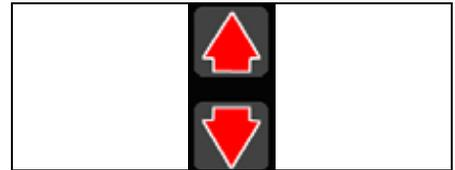

Figure 3-17 Raise/Lower SP detail
The set point value is increased by pressing the (UP) arrow and decreased by pressing the down arrow (**Figure 3-17**). Pressing either button once changes the set point value ± 0.05 \".